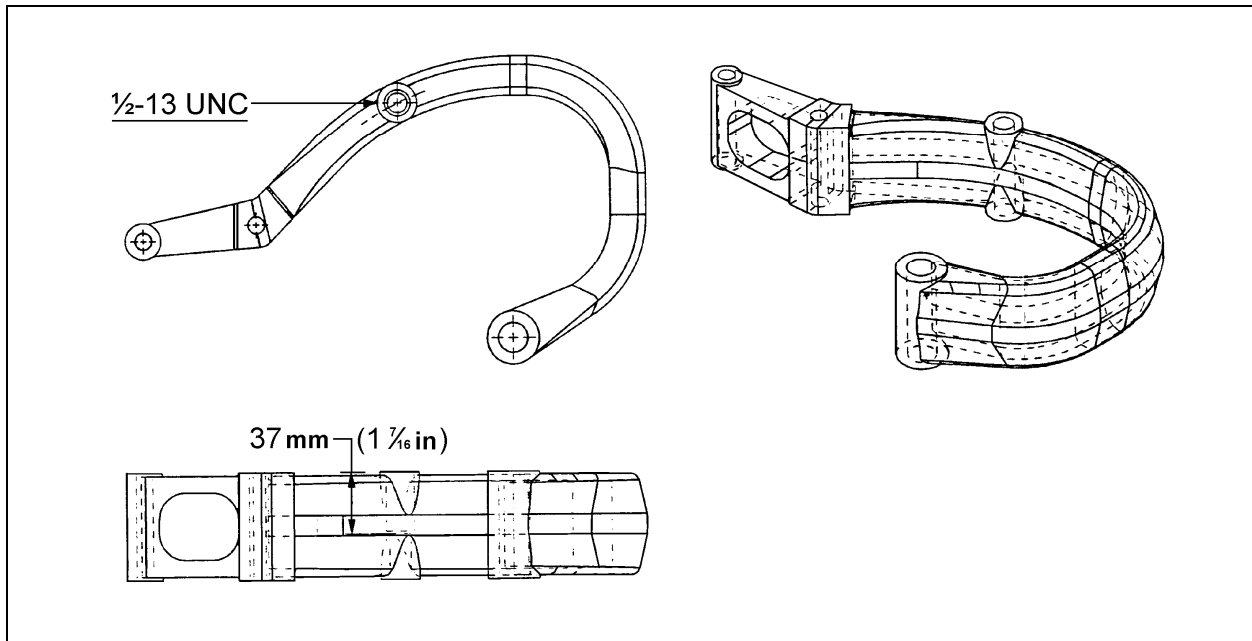

FIGURE 3: UPPER HINGE
4. Ream and tap upper hinge hole so that a 1/2-13 UNC thread and 1 7/16 inch (37 mm) deep hole is obtained (refer to figure 3).
4. Ream and tap upper hinge hole so that a ½-13 UNC thread and 1 7/16 inch (37 mm) deep hole is obtained (refer to figure 3).